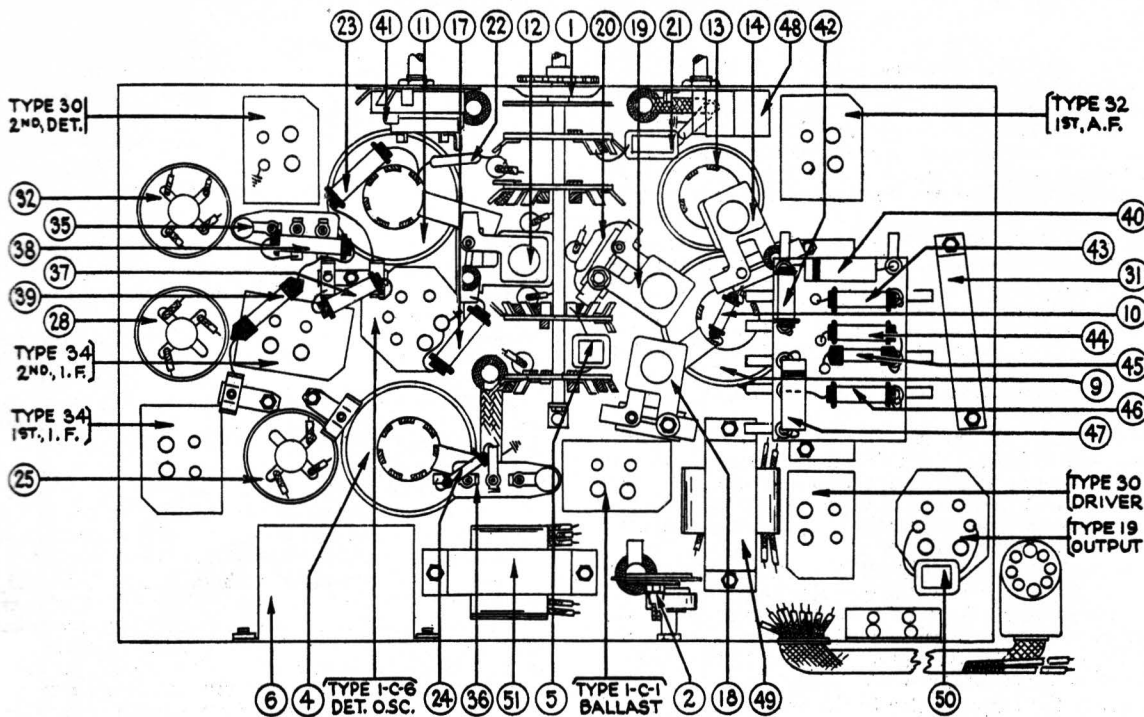

FIG. 5—Bottom View of Chassis, Showing Parts, and Position of Compensating Condensers Reached from Below Chassis
Turn the Wave-Band Switch to Range 2, and adjust the Station Selector to 3.6 M.C. The "Antenna" connection between the Signal Generator and the receiver chassis must be removed for this adjustment, otherwise the output of the Signal Generator will be too great. Adjust the compensating condenser ⑰ to give maximum response in the output circuit. This compensating condenser is located underneath the chassis and is not accessible from above. See Figure 5.
The Model 048 or its equivalent is now used again. Turn the Wave-Band Switch of the set to Range 2 and the Station Selector to 1.5 M.C. Set the Signal Generator at 1500 K.C. Make sure the "Antenna" connection between the Signal Generator and the Chassis has been restored. Adjust compensating condenser ⑱ located underneath the chassis, (Figure 5). Adjustment is made from the underside of the chassis.
Tune the Wave-Band Switch to Range 1 and the Station Selector to 1400 K.C. Set the Signal Generator at 1400 K.C. Adjust compensating condenser ⑲, which is located underneath the chassis. (See Figure 5). This adjustment is made from the underside of chassis.
Finally, with Wave-Band Switch at Range 1, and Station Selector at 520 K.C., set the Signal Generator at 520 K.C. and adjust compensating condenser ⑳ (Figure 5). This compensating condenser is also mounted underneath the chassis, and reached from below.